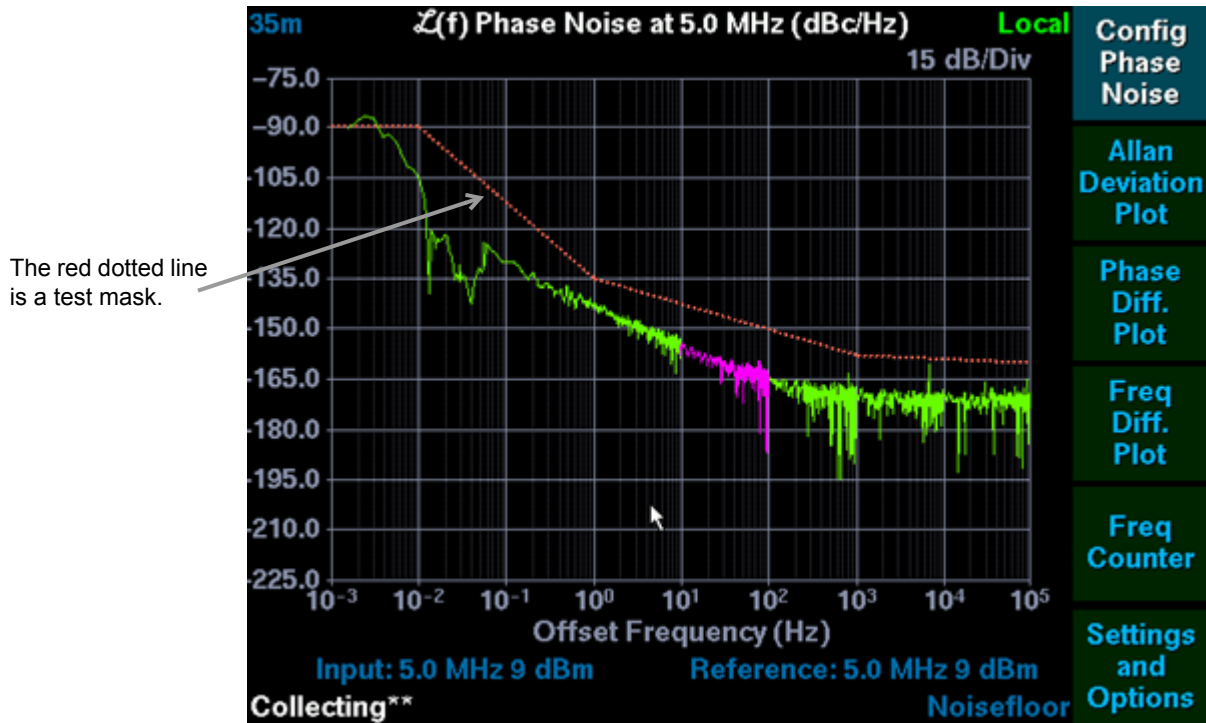
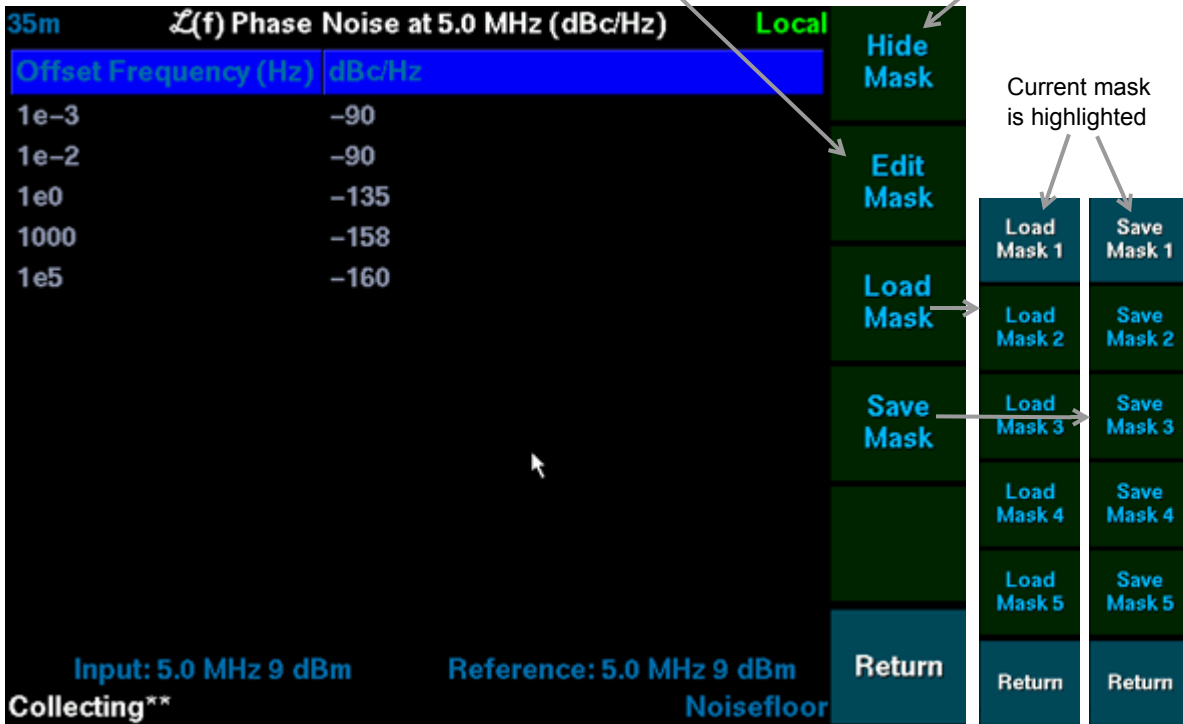

Figure 11: Example test mask for phase noise
Figure 12: The test mask editor
4. The Test Mask Editor is activated and displays the points in the current test mask. The current test mask is empty when the phase noise test set is shipped. Figure 12 on page 36 shows the test mask editor for the test mask shown in Figure 11.
3. Press one of the softkeys (shown on the right in Figure 12) to save the mask to the corresponding slot.
3. Press one of the softkeys (shown on the right in Figure 12) to load the test mask stored in the corresponding slot.